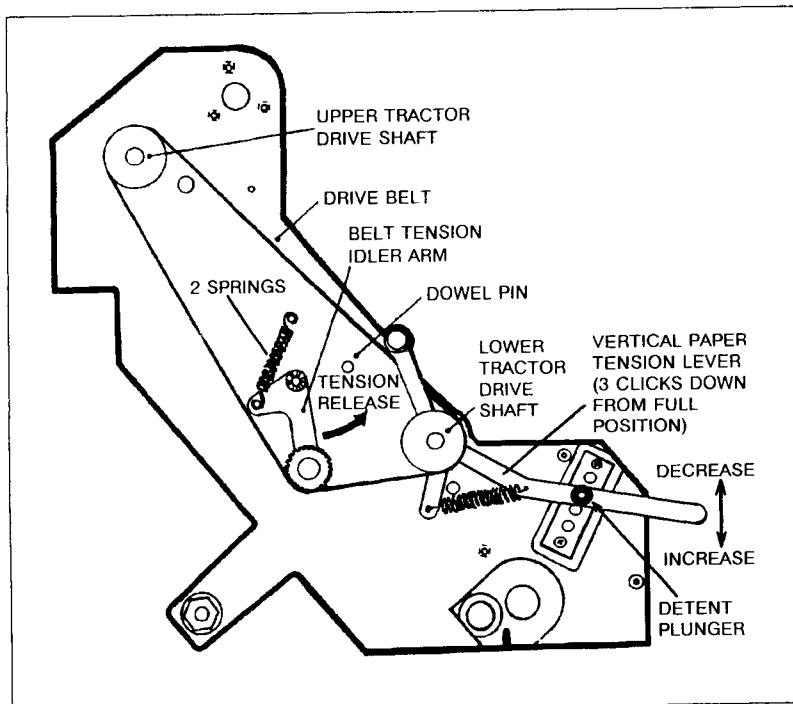

Figure 6-38. Drive Belt Removal
- c. Remove one spring during adjustment. Loosen the belt tension by carefully pulling the idler arm upwards and allowing the spring(s) to pull it against the dowel pin, which will hold it in this position (see Figure 6-38). (Printers that were produced beginning with series 2742 should have two parallel springs on the idler arm assembly.)
- f. From the underside of the panel, squeeze the two plastic tabs on the side of the sensor switch (see Figure 6-38) and slide the switch out the front of the panel.